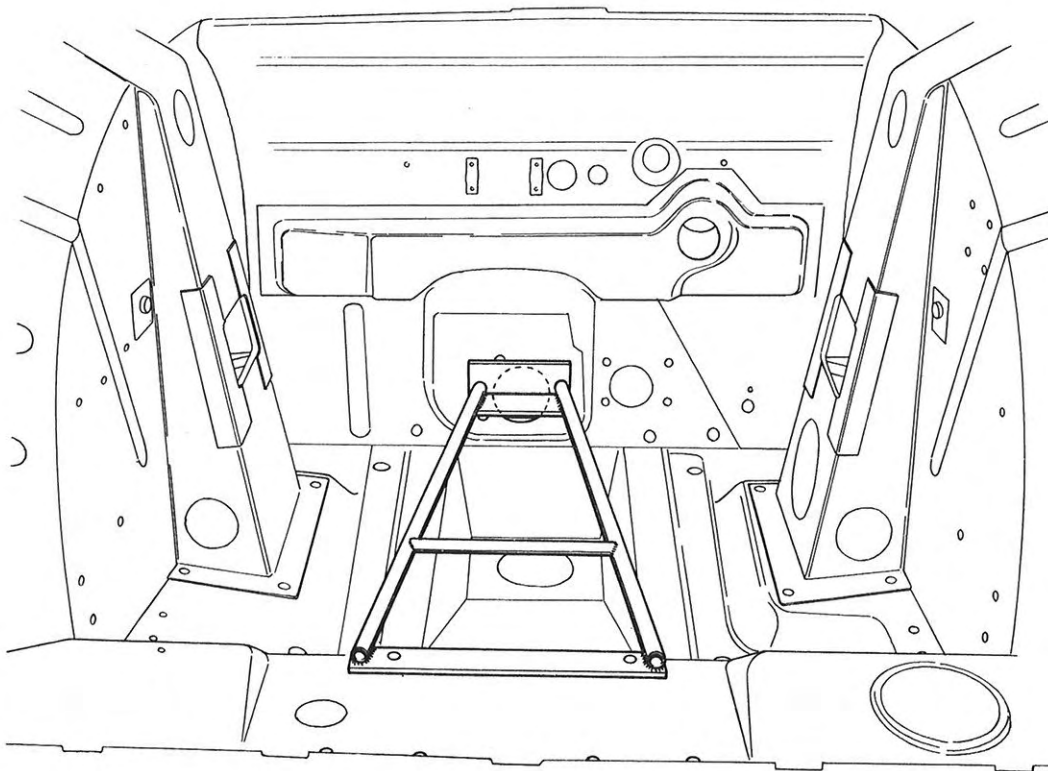

Fig 10. Checking dimensions of front floor. Tool Saab 93-152
7. Level the floor plate and check that the distance between the front and rear power unit suspension points is correct. Use tool Saab 93-152, see Fig. 10. If the distance is not correct, the cowl must